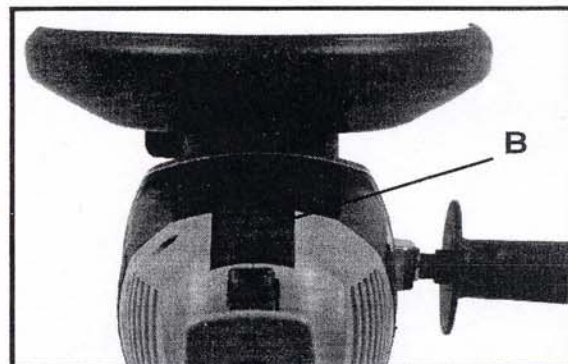

Fig. 5
The rear handle (A) Fig. 5, can be placed in three different locations to provide the most comfortable, safest, and least fatiguing position for the operator. As shown in Fig. 5 it is in the center position. It can be rotated to both the left and right of this position.
1. Press handle lock button (B) Fig. 5.